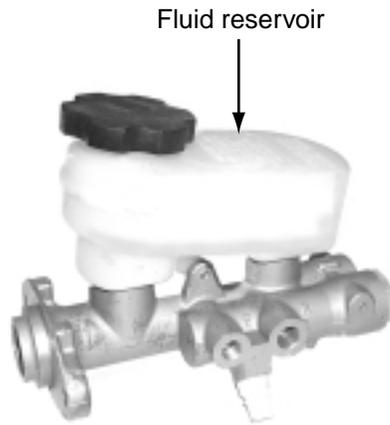

Figure 9-2 On many vehicles, you can check the brake fluid level through the translucent master cylinder reservoir.
6. Shut the engine off and check the master cylinder fluid level. On most late-model cars, this can be done by cleaning the translucent reservoir, and visually noting the fluid level in relation to the embossed line or mark on the reservoir (Figure 9-2). To evaluate fluid condition, remove the reservoir cap or cover.